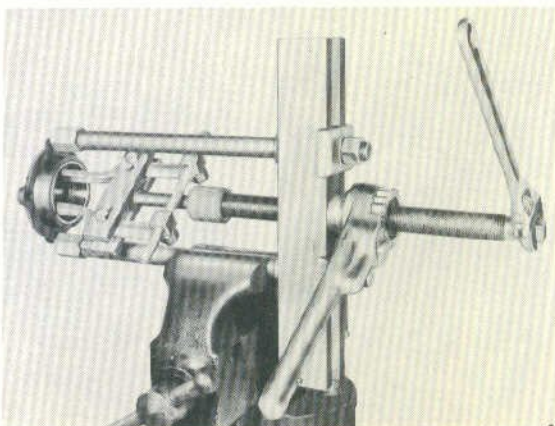

Fig. 13
- Remove the race as shown in Figure 13.